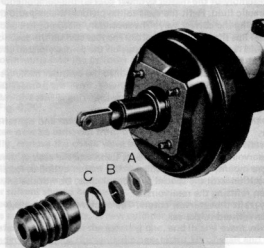

Fig. 9.24. Servo unit air filter (Sec. 14)
- 8 **Air filter replacement:** From inside the car, detach the brake pedal from the servo pushrod, then remove the rubber boot over the pushrod housing and air filter (Fig. 9.24).